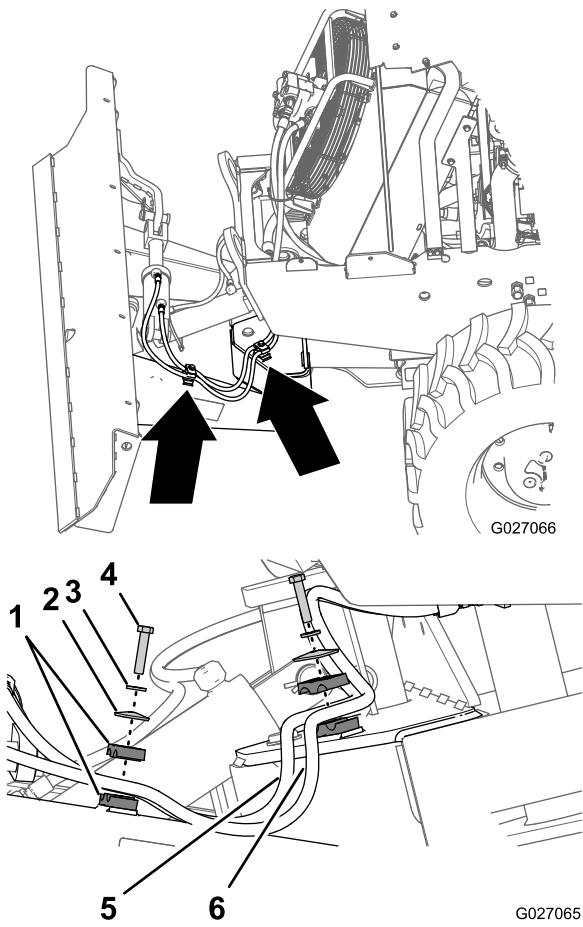

Figure 44
8. At the weld nut on the left lift arm, secure the hoses with 2 clamp blocks, bolt (3/8 x 1-3/4 inch), washer (3/8 inch), and cover plate (Figure 44).
9. At the weld nut on the top plate of the pivot frame, secure the hoses with 2 clamp blocks, bolt (3/8 x 1-3/4 inch), washer (3/8 inch), and cover plate (Figure 44).
- Note:** Ensure that there is slack in the hoses between the clamp blocks at the lift arm and the pivot frame (Figure 44).